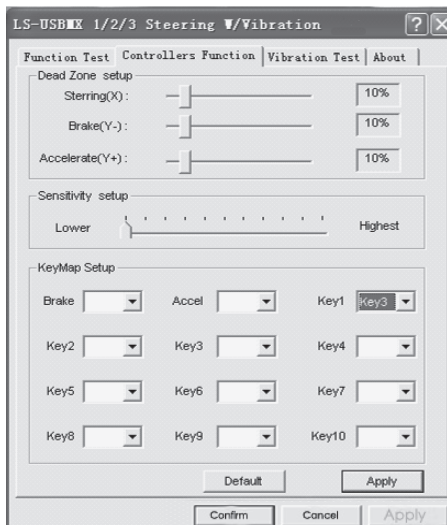

Fig. 7
- Choose «Controllers Function» to set axes and keys (Fig. 7).
- Dead Zone Setup: controller will not respond to a slight touch of acceleration pedal (Accelerate Y+), or brake pedal (Brake Y-), or turns of the wheel (Steering X), therefore necessary adjustments should be made by cursors (Fig. 7);
- Sensitivity Setup: the higher sensitivity is, the swifter and more efficient response of controller to pressing of pedals and turns of the wheel will be, therefore if it is necessary adjustments within Lower to Higher range should be made by cursors (Fig. 7);
- KeyMap Setup reprograms functional keys: there should be chosen new necessary assignment against the key designation (Fig. 7);
– After installation of the driver, the controller can be automatically centered by pressing MODE button MODE (11).